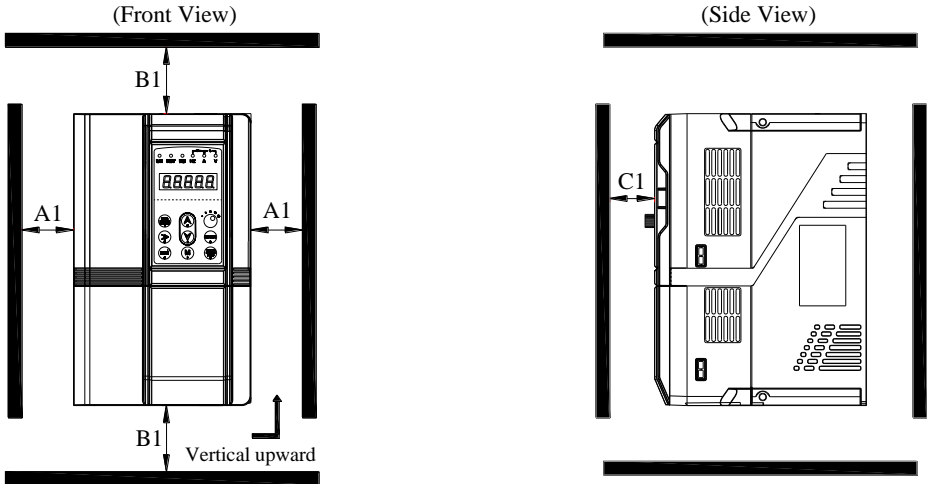

Fig.3-1 Single inverter installation
- As shown in **Fig.3-1**, the installation space needs to ensure that the frequency inverter has sufficient heat sink space. Please consider the heat dissipation of other devices in the cabinet when reserve the space.